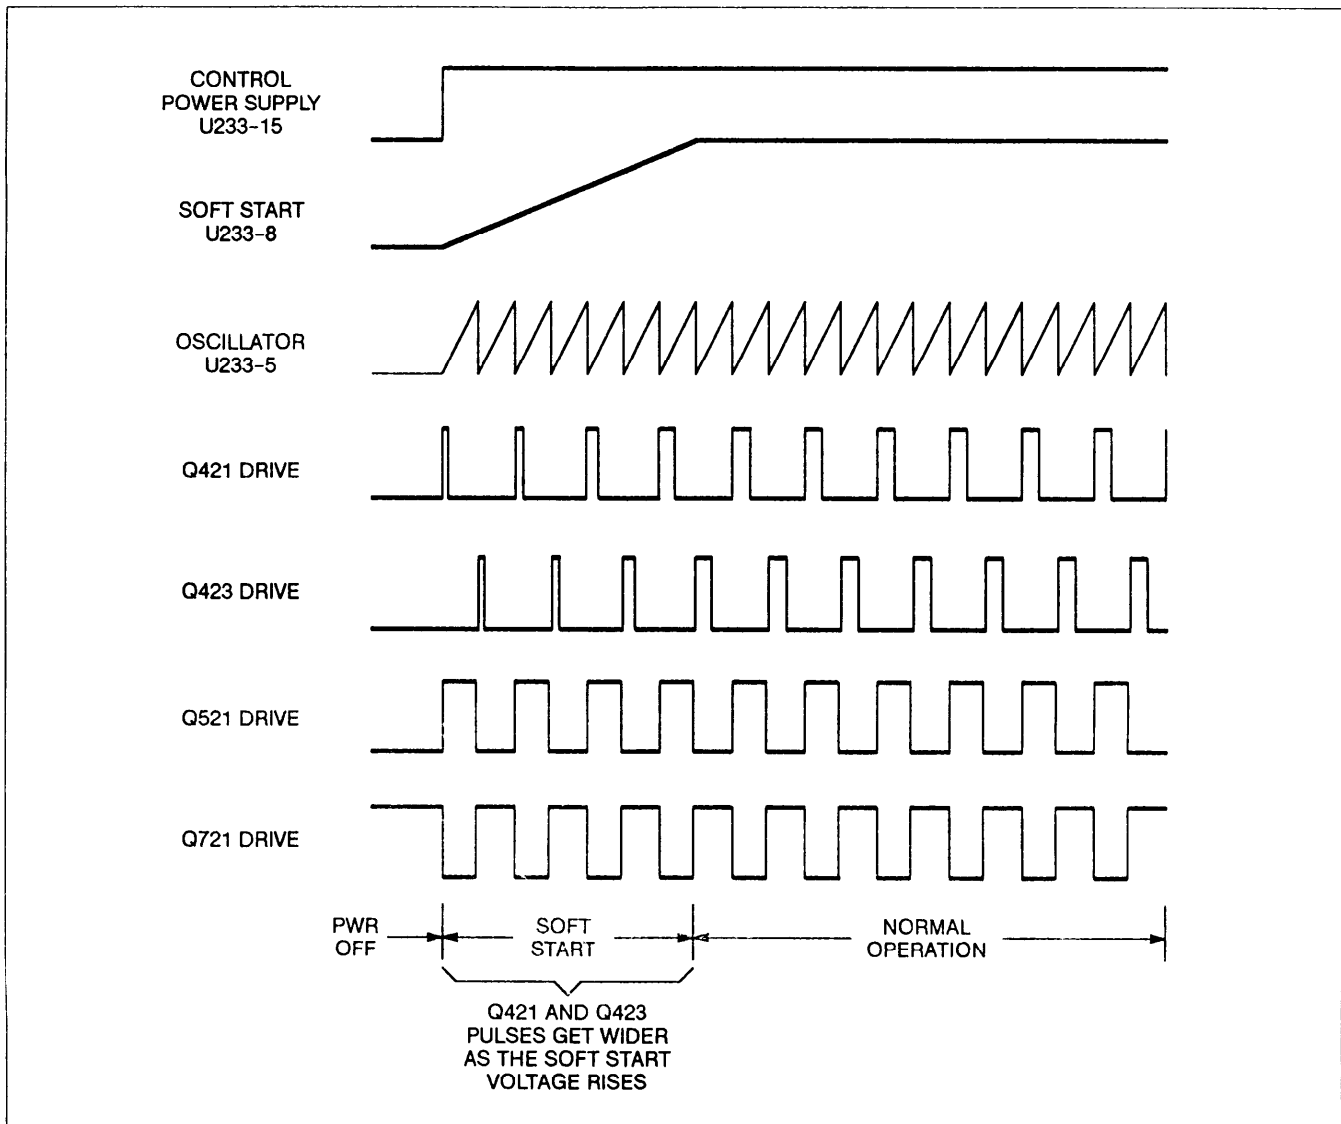

Figure 3-14. PWM switching waveforms.
**PREREGULATOR START-UP.** As the supply for the Preregulator control IC is established, an internal oscillator begins to run. The oscillator generates a repetitive triangular wave (as shown in fig. 3-14) at a frequency determined primarily by R228 and C227 (with R227 having a minor effect since it controls the discharge time of timing capacitor C227).